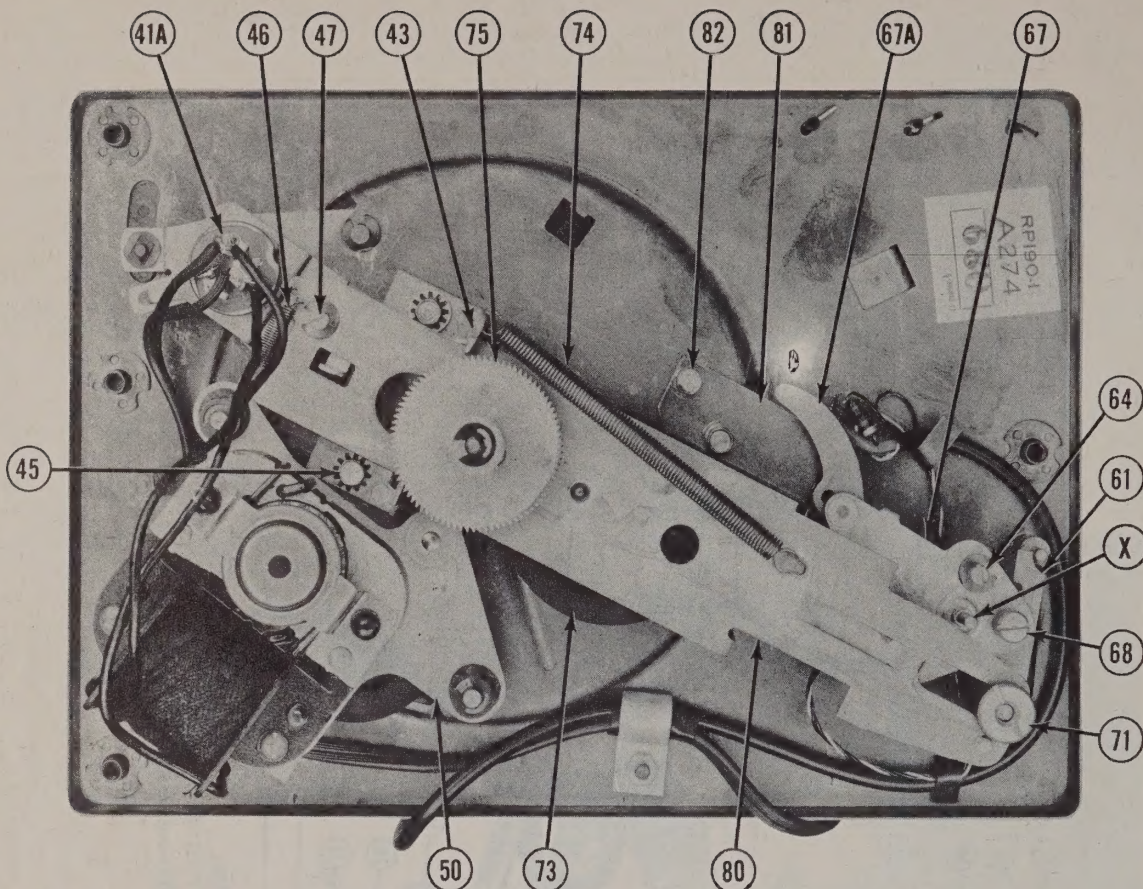

Figure 3
As the slide (80) continues to move back, the incline (80C) moves against the elevating rod (23) and, in turn, raises the pickup arm from the record. The step in the slide then engages the stud (X) of the trip lever (67), pivoting the lever and pickup arm outward (see Figure 3). At the same time this takes place, the eccentric landing adjustment screw (68) contacts and pushes the pickup arm return lever (61) against the tension of the return spring (62).
Pickup Arm Set-Down (Refer to Figure 3) -
Pickup Arm Height (Refer to Figure 3) -
Tripping Adjustment (Refer to Figure 3) -
Mounting Bracket Adjustment (Refer to Figure 3) -
Muting Switch Adjustment (Refer to Figure 3) -
Stop Dog Adjustment (See Figure 3) -